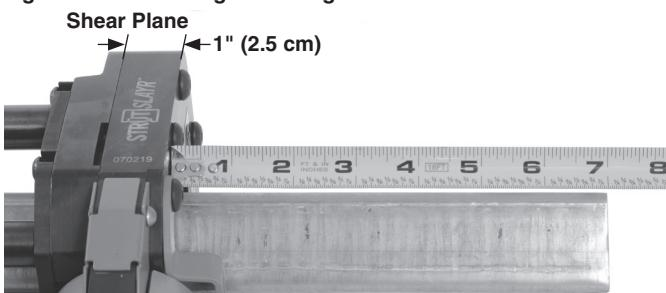

Figure 6B – Measuring Strut Length
- Add 1" (25 mm) to sideplate – strut end measurement (*Figure 6B*).